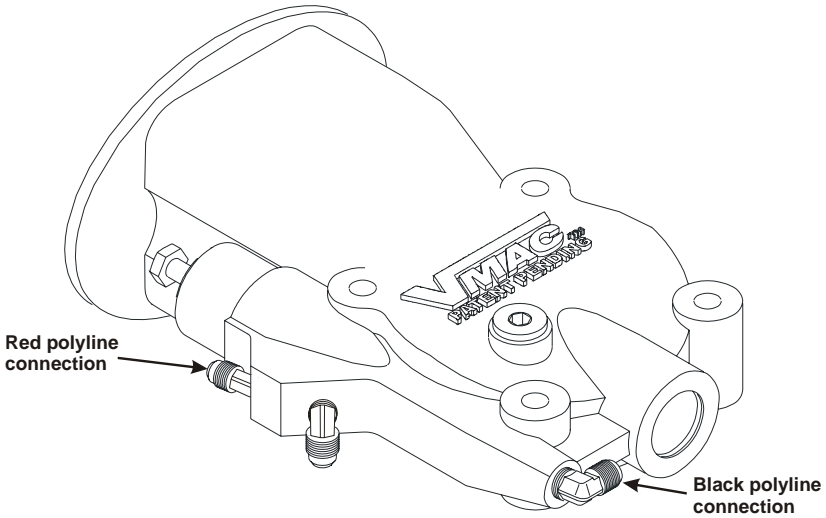

Figure 4.6
- ☐ Connect the red and black poly tubes from the throttle controller to the compressor (Figure 4.6). Route the tubes to avoid hot areas and moving parts. Fasten them in place with ties.